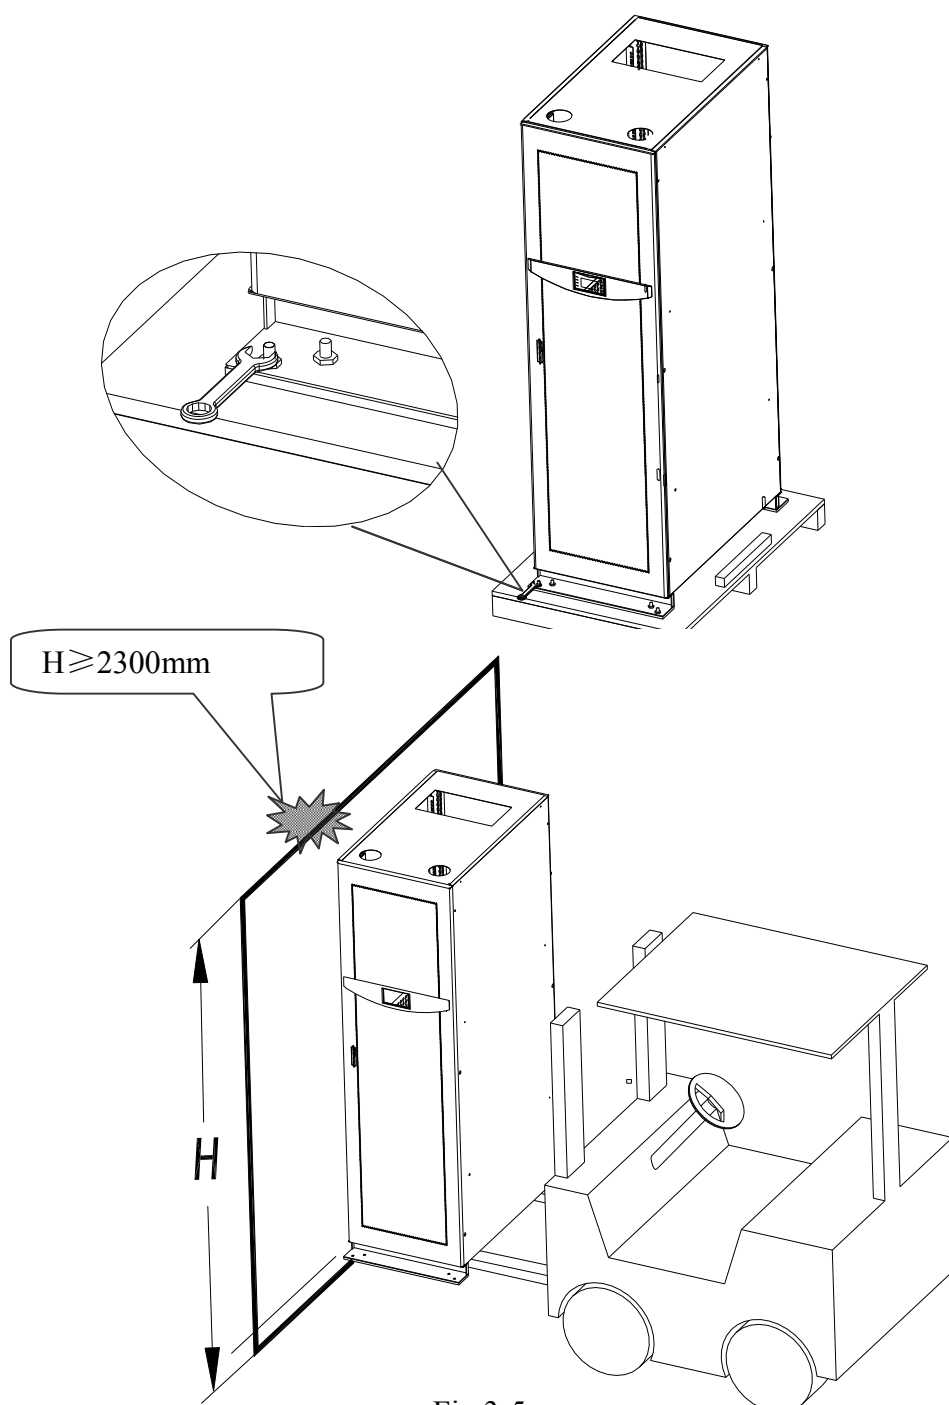

Fig.3-5
5. Move the frame smoothly from the pallet to the ground or the reserved position for installation with a forklift. (Fig.3-5);